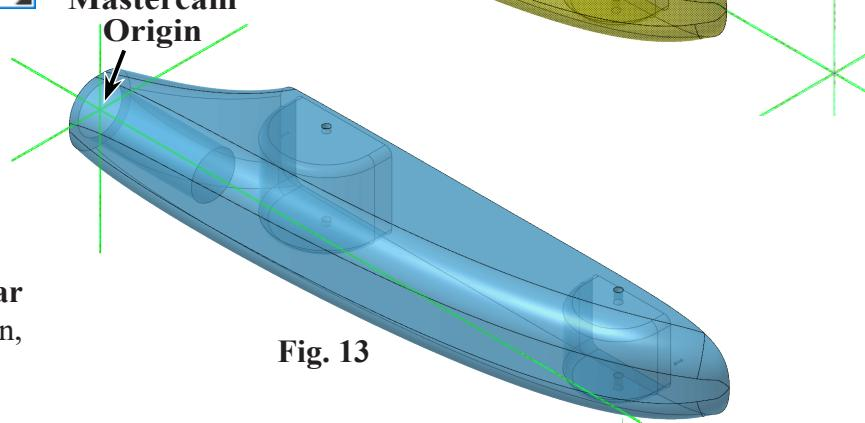

Fig. 13
Step 8. Confirm **center of cartridge hole at rear of car** as new position of Origin, **Fig. 13**.